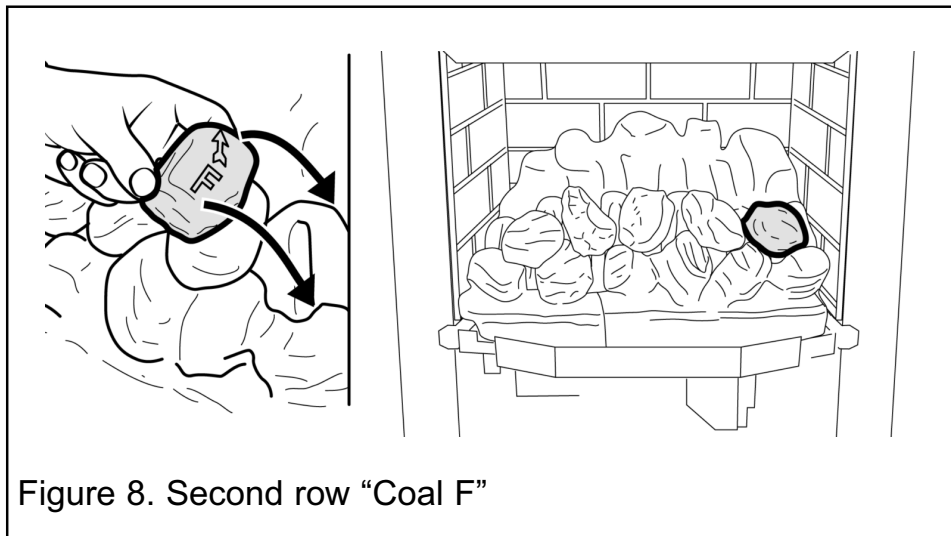

Figure 8. Second row "Coal F"
10. Hold coal 'F' upright with the arrow pointing to the top. Locate coal 'F' as shown in figure 8.